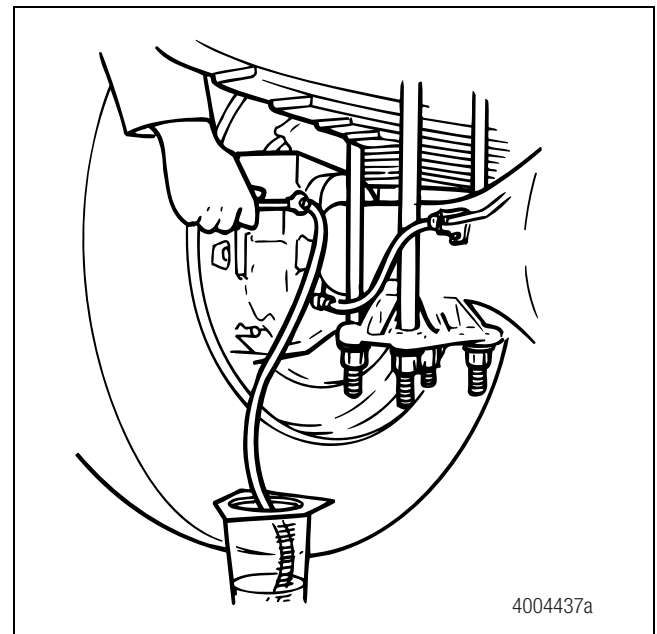

Figure 4.53
- C. Use a wrench to open the bleeder fitting screw to the torque value specified by the component manufacturer. Figure 4.53.